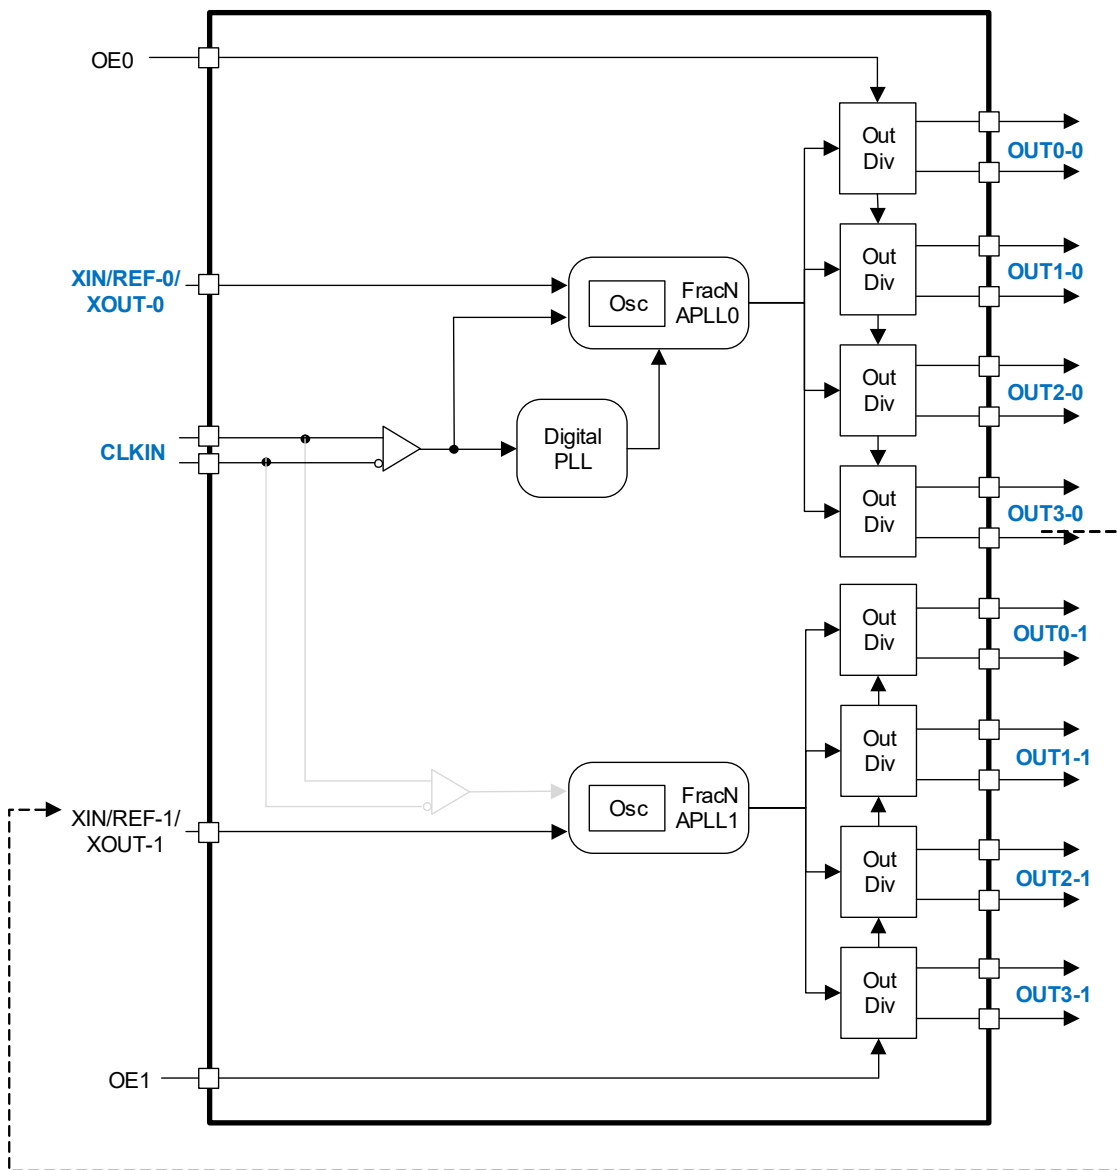

Figure 6. Jitter Attenuator or Synchronizer Mode with RC32508A when External Reference is Fed into CLKIN
| Figure 6. Jitter Attenuator or Synchronizer Mode with RC32508A when External Reference is Fed into CLKIN .. | 9 |
- As shown in Figure 6, up to two frequency domains can be obtained in this configuration and up to seven differential outputs and one LVCMOS output or 15 LVCMOS outputs can be obtained.